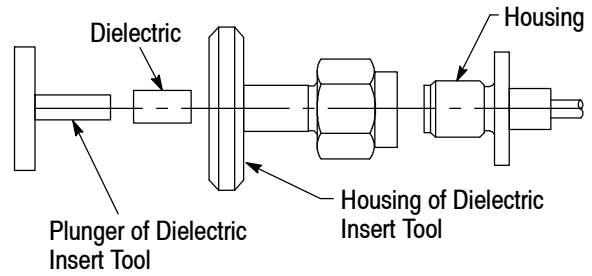

Figure 5
12. Insert the dielectric into the housing of the dielectric insert tool. Place the plunger of the tool into position, and press the plunger until the flange bottoms on the tool housing. See Figure 5.